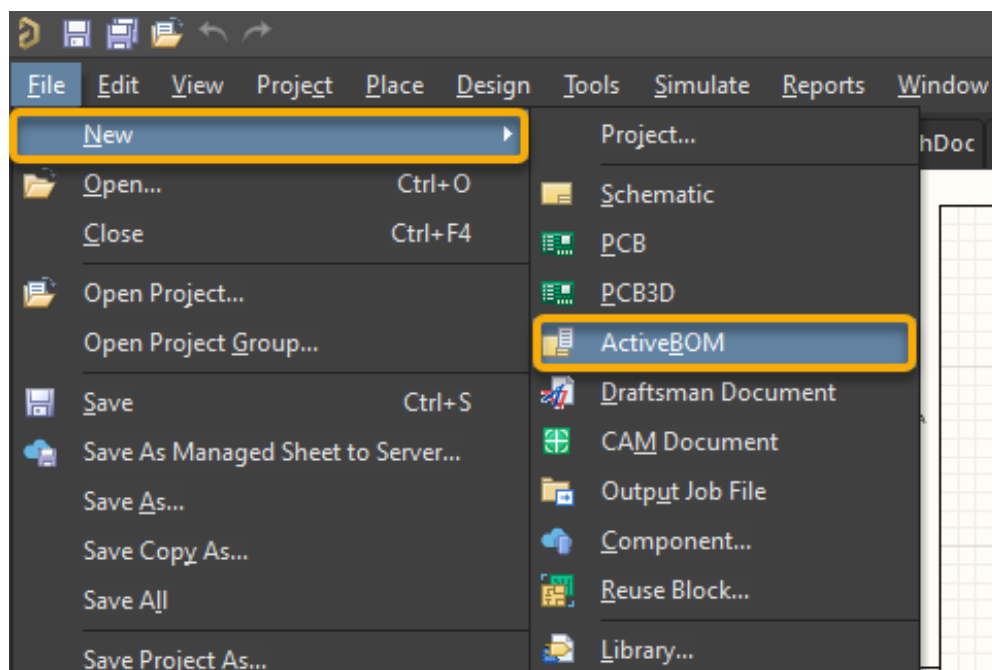

Figure 1. Adding an ActiveBOM document to the project
- a) Use the command **File » New » ActiveBOM**, as seen in Figure 1.